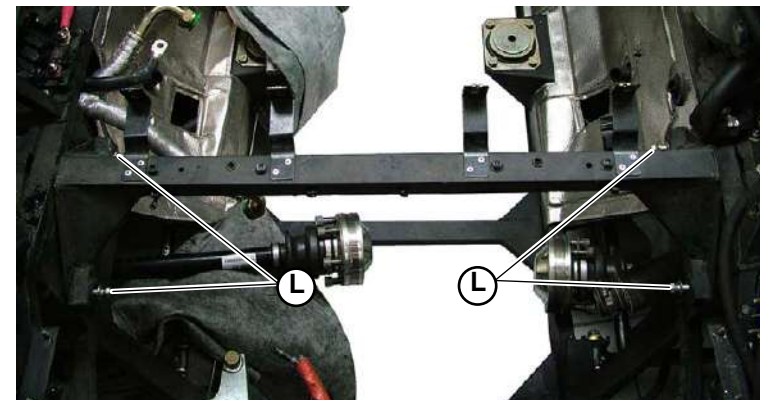

Fig.6
7. Assemble the rear cross member, tightening the 4 screws (**L-Fig.6**) onto the two inner sides.